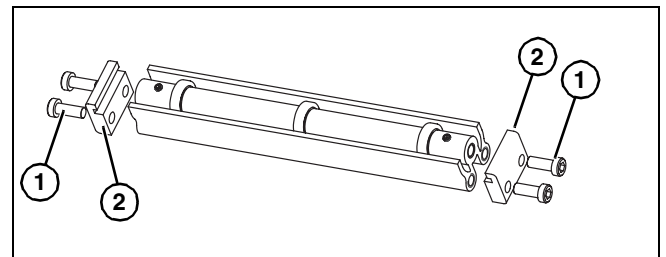

Figure 15
- Locate return rollers. Exploded view shown in Figure 15.
- Remove screws (**Figure 15, item 1**) and clips (**Figure 15, item 2**) from roller assembly.